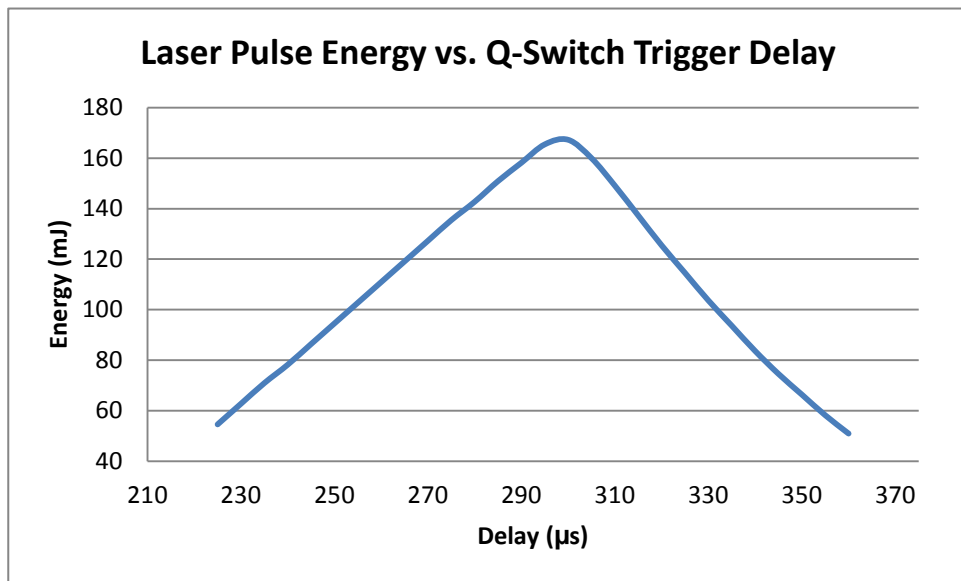

Figure 5-6 Example of Laser Pulse Energy Dependence on the Q-Switch Trigger Delay
7. Peak the laser pulse energy with Q-switch trigger delay. Figure 5-6 shows an example of the relationship between Q-switch trigger delay and pulse energy.